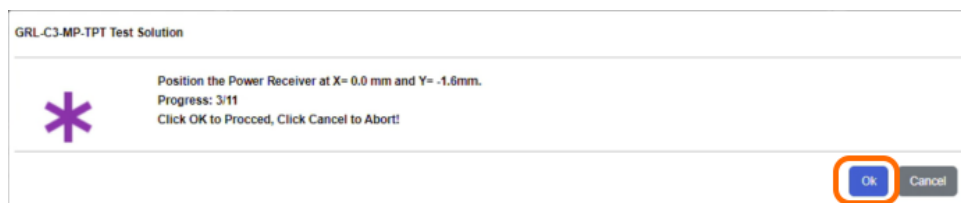

FIGURE 2.14: FIND OPTIMUM COIL POSITION - #6
6. Follow the instructions (as seen in Figure 2.14 below) to align the X-axis and Y-axis values accordingly using the respective knobs. Then click **Ok** to proceed with the next step.